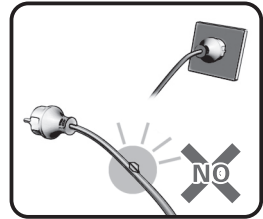

Figure 3
- The submersible pump should not be used if the electrical supply cable is damaged in any way. If a cable with damaged insulation is submerged in water, there is danger of water seeping into the pump motor and causing a short. The electrical cable cannot be replaced. If the cord is damaged, the pump should be discarded. Altering the electrical cable in any way will void the warranty. (Figure 3)